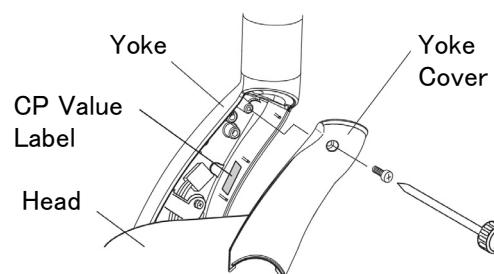

Fig. 2
3. Remove the screw and yoke cover. (Fig. 2)
2. Hold down the P (Patient), C (Cone), and kV switches together until "CP-XX" is displayed in the exposure time window. Press the exposure time adjusting switches ( $\Delta$  or  $\nabla$ ) and adjust the CP number so that it is the same value as 60kV, which is written on the label inside the head yoke. (Fig. 2) Press the P (Patient) switch to save its value. Be sure to hold down the P (Patient) switch until you hear two (2) beeps.
3. Press the kV switch, and the LED will show 70 kV. Press the exposure time adjusting switches ( $\Delta$  or  $\nabla$ ) and adjust the CP number so that it is the same value as 70kV, which is written on the label inside the head yoke. (Fig. 2) Press the P (Patient) switch to save its value. Be sure to hold down the P (Patient) switch